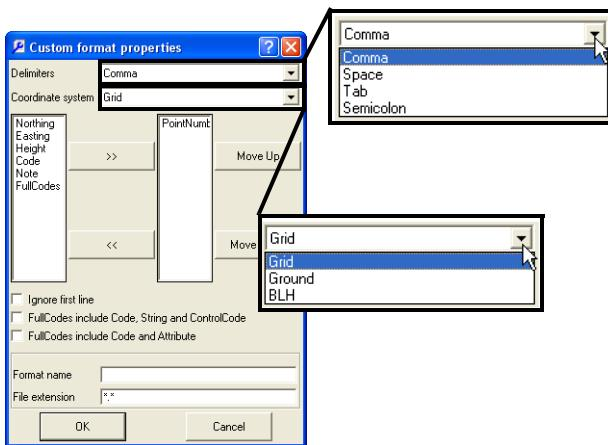

Figure 3-6. Select Delimiters and Coordinate System
6. On the **Custom format properties** dialog box, select the *Delimiters* and *Coordinate system* from the drop-down lists (Figure 3-6 on page 3-10).